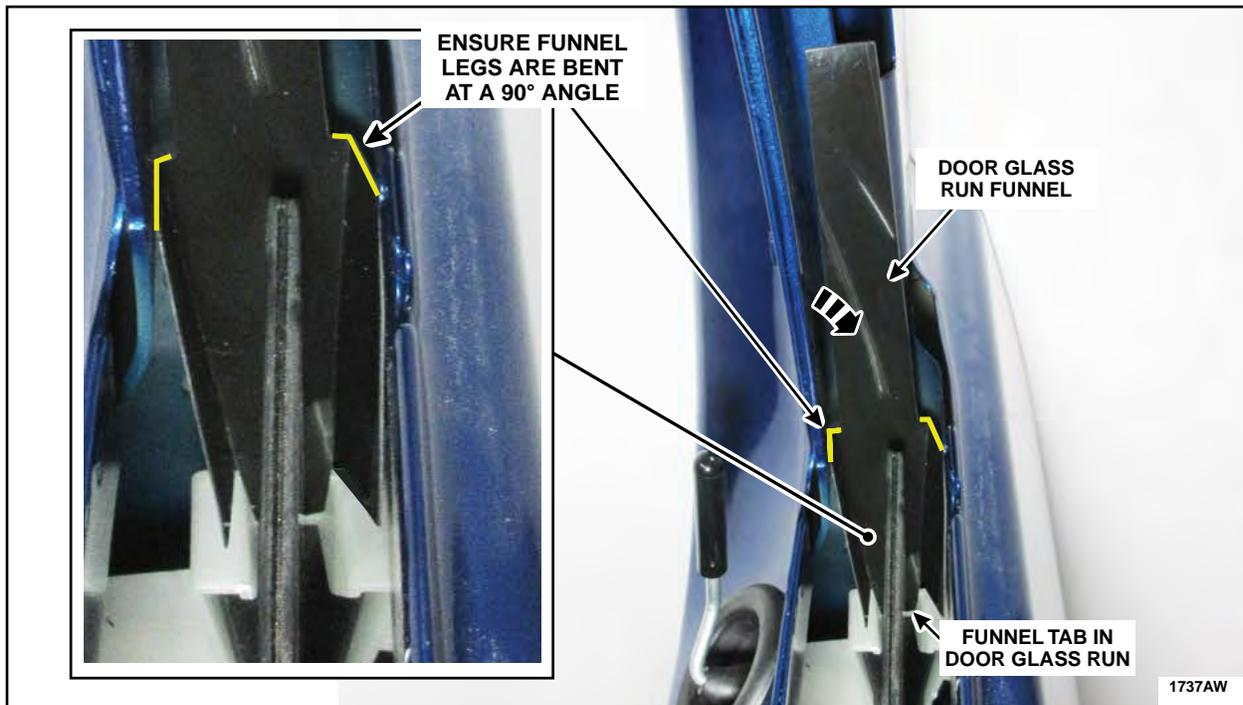

FIGURE 24
13. Install one of the appropriate length door glass run funnels ensuring that the lower tab is situated in the door glass run and the funnel sides sit at a 90° angle above the door glass run. See Figure 24. Refer to ATTACHMENT V for additional information.